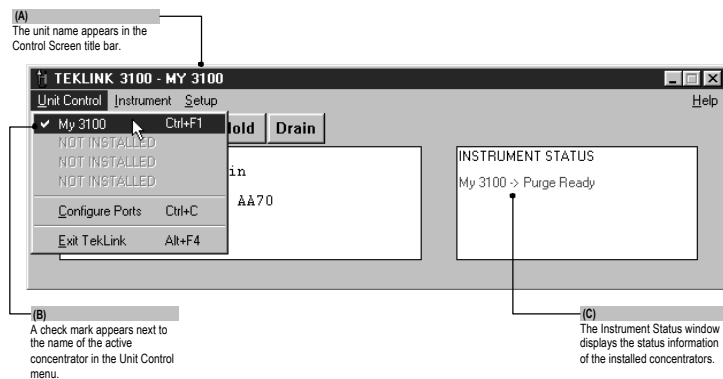

Figure 3.2.4.1 Unit Control Menu Displaying the Active Concentrator
4. To verify the name and status of the designated active unit, observe the Instrument Status window of the Control Screen (see figure 3.2.4.1).